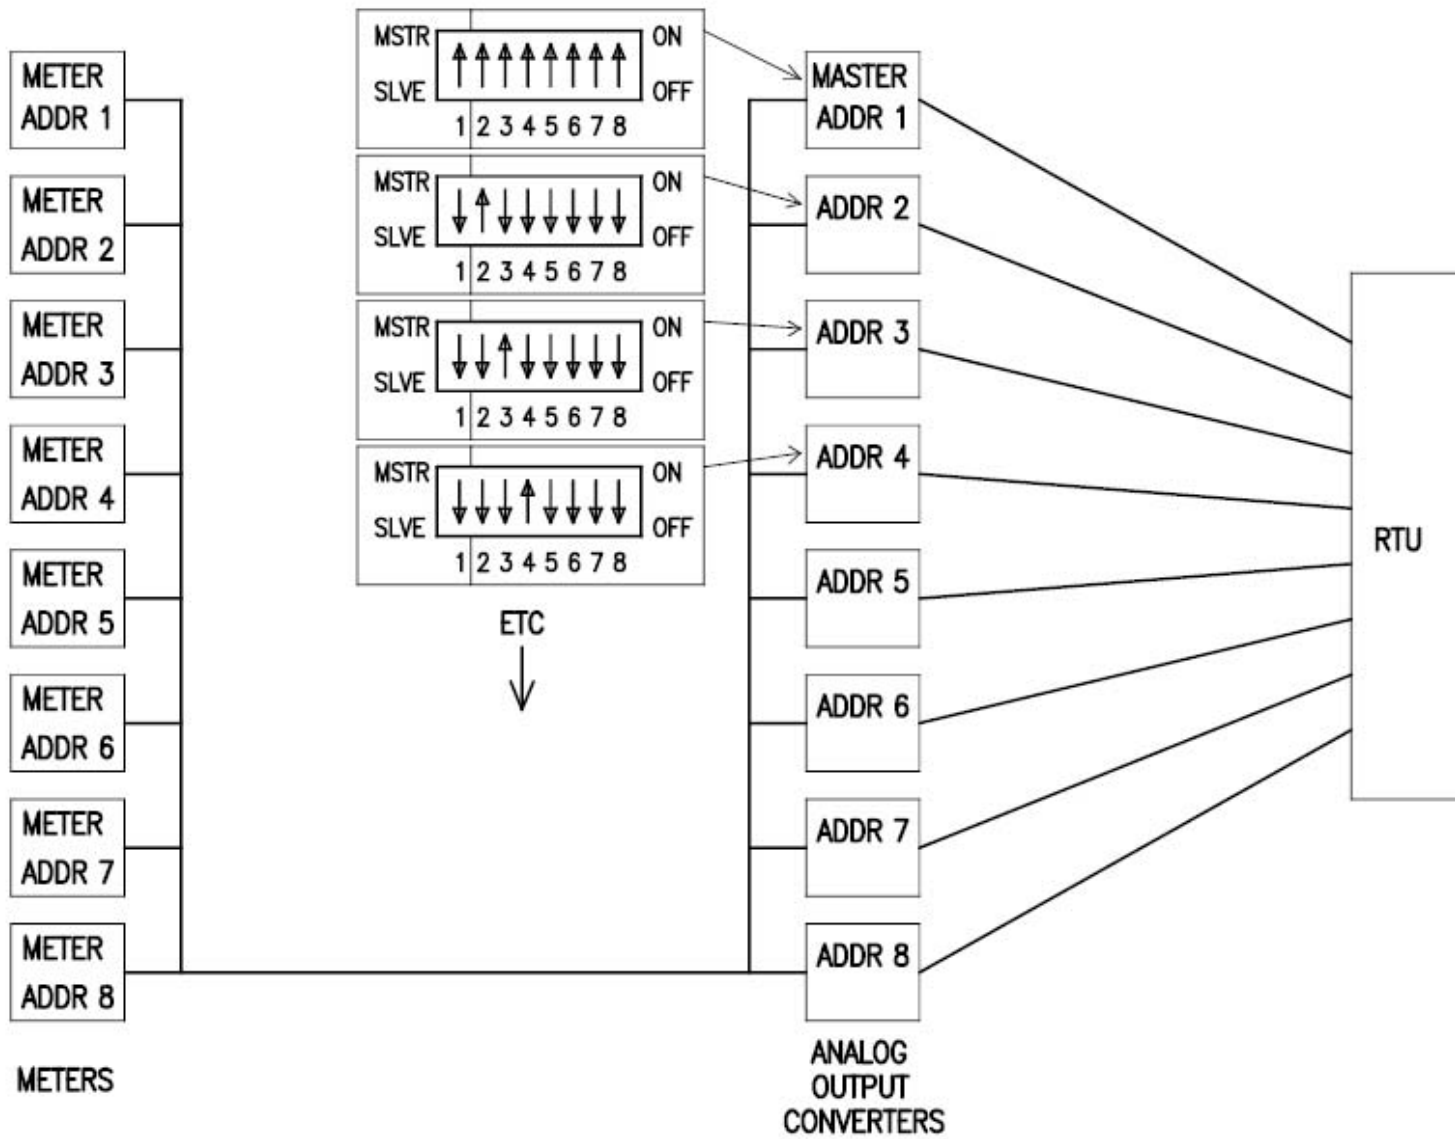

Figure 2 - Multiple Unit Connection
SLAVE AOC's function as "passive listeners", and update their outputs to correspond to the data from the meter/transducer with the same address as the AOC SLAVE address. All SLAVE AOC's have SW1 switch 1 in the OFF (downward) position, and at most *one* ACTIVE SLAVE(S) switch in the ON (upward) position. Figure 2 shows the connection concept and DIP switch settings. If multiple ACTIVE SLAVE switches are ON (UP), the AOC will ignore all data and drive all outputs to the error condition (approximately 2.5mA for NAO8101 and NAO8103 models, approximately 2mA for NAO8102 and NAO8104 models).